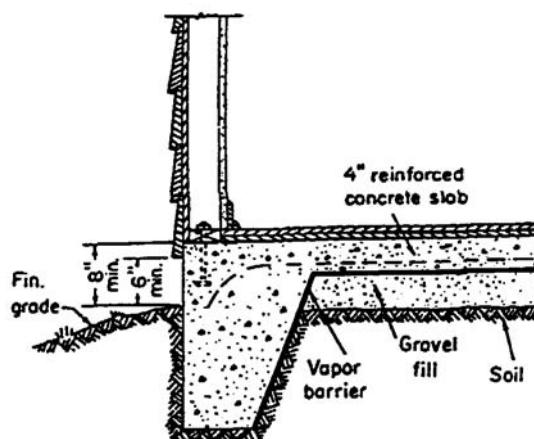

Figure 16. Monolithic concrete slab-on-ground construction.
1. **Monolithic Slab.** A monolithic slab (Figure 16) provides the best protection against termites. The floor and footing are poured in one continuous operation, so that there are no joints or other structural features that might permit hidden termite entry. The top of the slab should be at least 8 inches above grade. This type of slab is commonly used under sheds and garages.